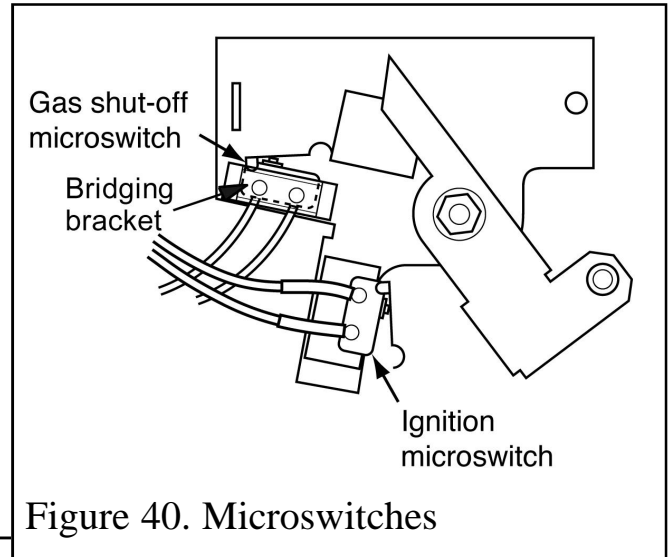

Figure 40. Microswitches
3. Disconnect the leads from the ignition microswitch (The lower of the two microswitches - See figure 40).
4. Detach the bridging bracket, microswitch assembly by removing two screws (See figure 40).